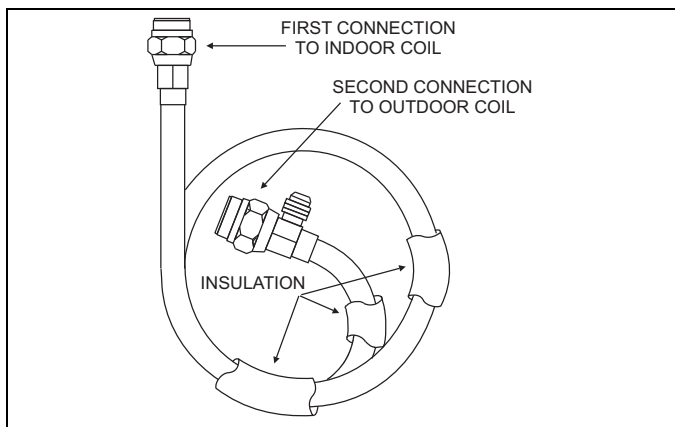

FIGURE 5: Typical Quick Connect Refrigerant Line Set
7. Install refrigerant lines to indoor coil first. The couplings without Schrader Valves are to be connected to the indoor coil. See Figure 5.